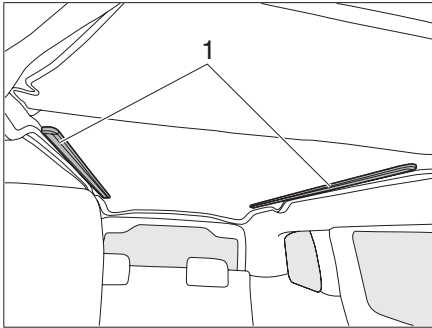
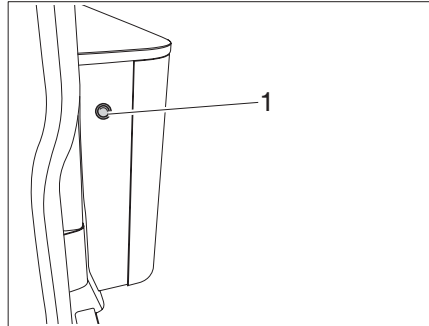
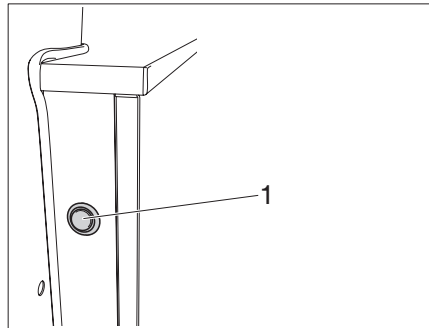
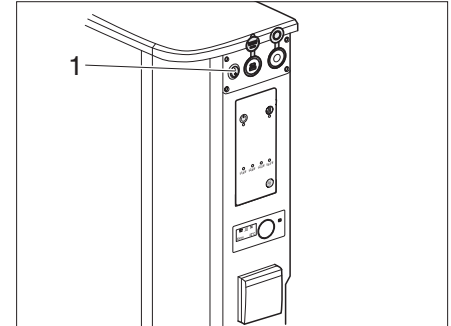

Fig. 27 LED lighting strips under the bed
Fig. 28 Button at the entrance
Fig. 29 Button in the rear
Fig. 30 Button at the entrance left
Under the bed there are two LED lighting strips (Fig. 27,1) on the left and right.
- ▶ Switch on/off both LED lighting strips (Fig. 27,1) at the button on the entrance (Fig. 28,1) button in the rear (Fig. 29,1) or with the button (Fig. 30,1) on the terminal strip.
The brightness of the LED lighting strips can be dimmed with the buttons (Fig. 28,1; Fig. 29,1 or Fig. 30,1).